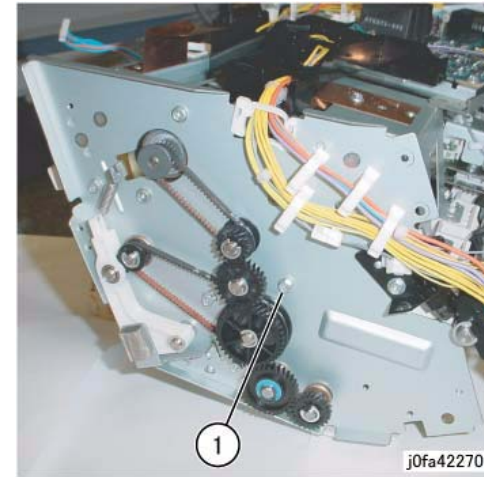

Figure 6 Removing the Screw
13. Remove the rear Screw (Figure 6):